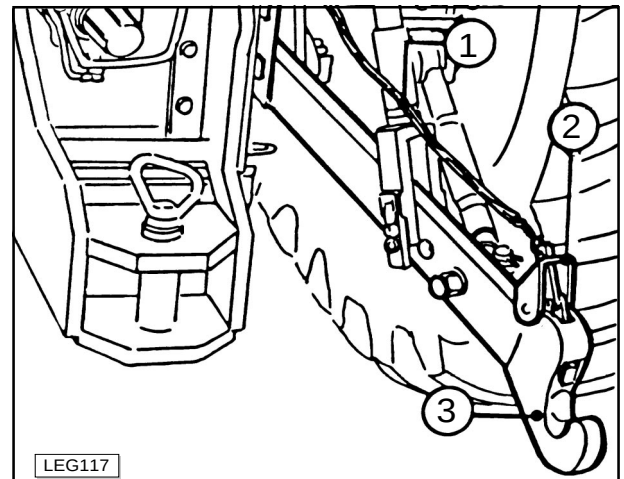

Fig. 4-70
They are equipped with quick-hitch couplings for attaching the implements (Fig. 4-70).
To hitch an implement, release the hook lock (2 - Fig. 4-70) by pulling the connecting cables (1) from the driving seat.